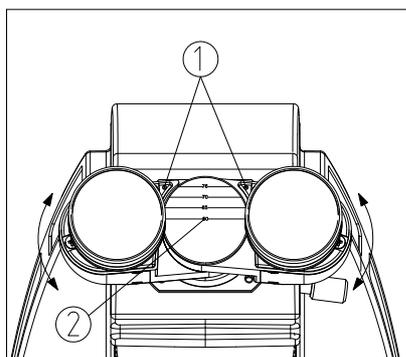

Fig12
① on the eyepiece base points to the scale ② of interpupillary indication, which means the value of interpupillary distance (see Fig. 12).